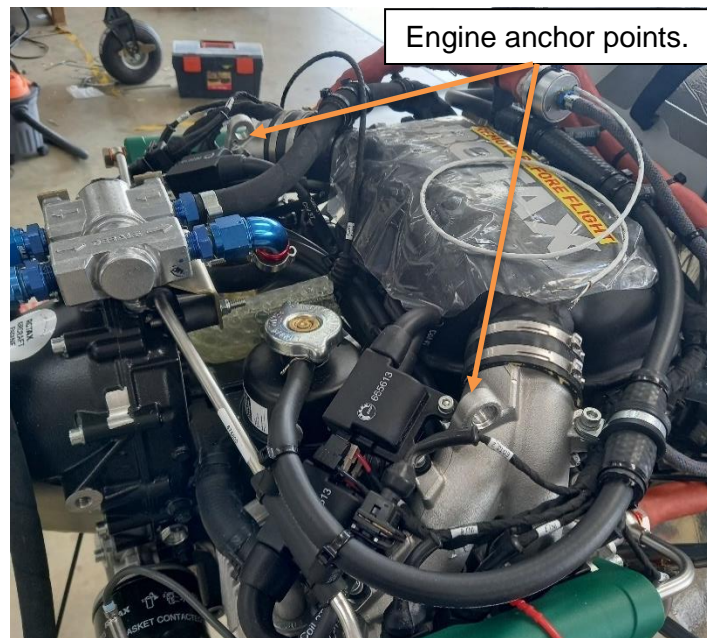

Figure 2: Rotax 912 iS engine anchor points
- Step 3: Before any bolts are removed, the engine must be supported. This is to prevent the engine from getting damaged should it drop during the bolt removal, as well as to relieve some strain on the bolts for easy removal. The engine can be supported by the anchor points located on the top of the engine, as shown in Figure 2.